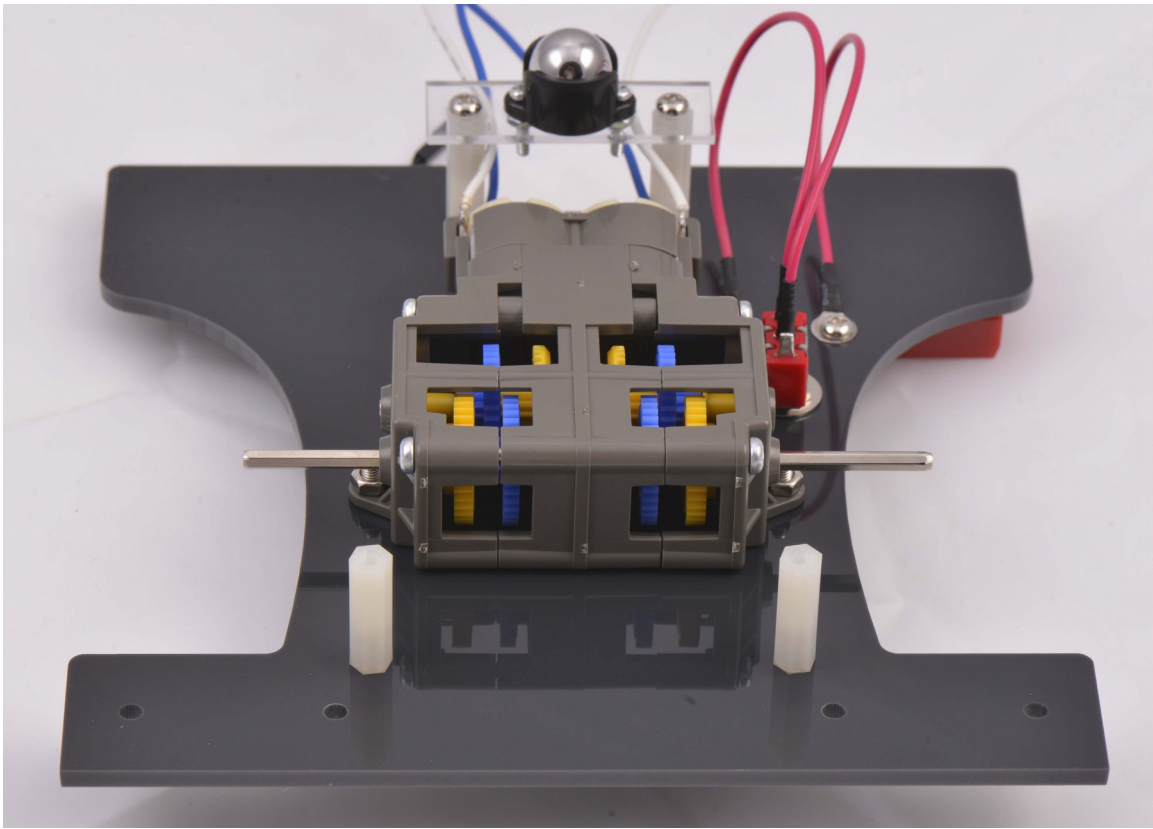

Figure 2.12
Use the two remaining countersunk holes in your Pi-Bot. Mount two (2) 1 inch spacers using two (2) flat head 4-40 x 3/8" screws, as shown in figure 2.12. Do not mount the line sensor at this time.